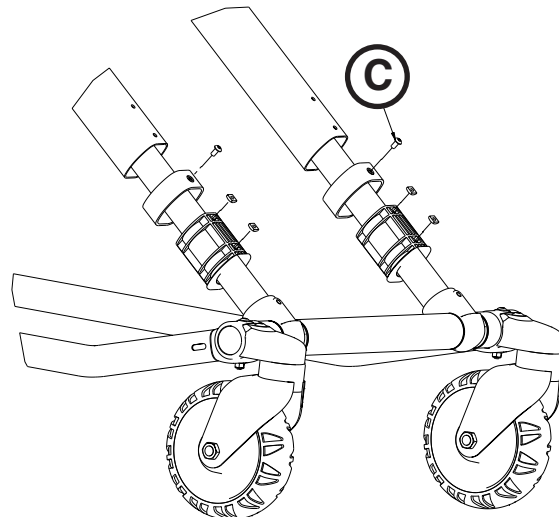

Figure 73
2. Using a T25 Torx driver, remove the two button head cap screws that secure the tube bearing (see "Figure 73" on page 70).